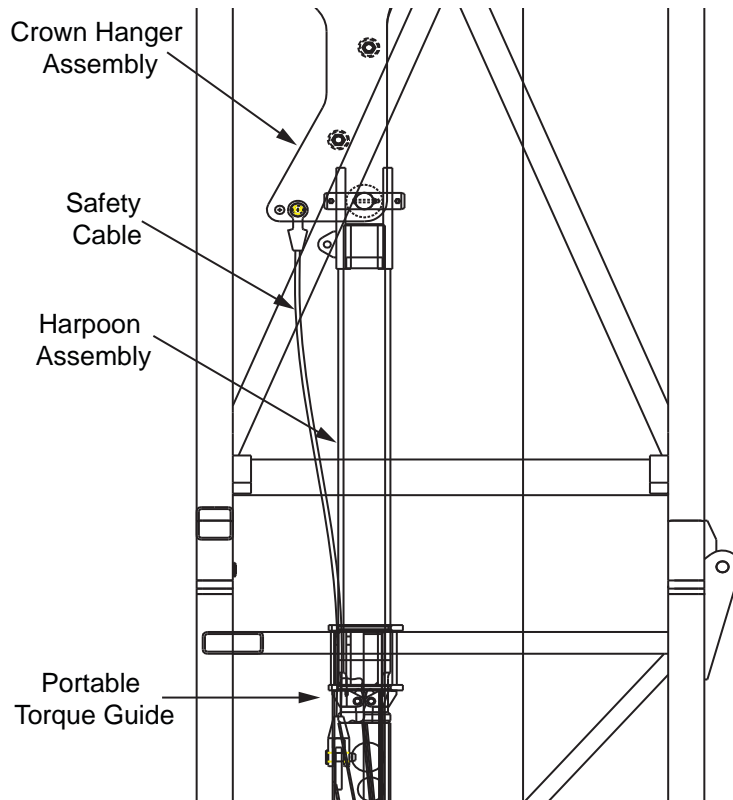

Figure 2: Inspect the crown hanger safety cable.
- Inspect the safety cable from the crown hanger plates to section 5 of the portable torque guide and also make sure the cable is properly secured (see Figure 2).